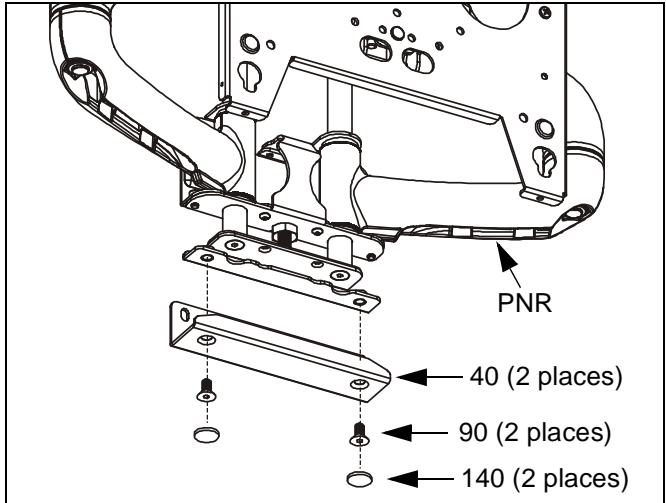

Figure 8: Attach Lower Bracket (PNR Mount)
- PNR mount: Using key (170), attach lower bracket (40) to mount assembly with screws (90) (See Figure 8). Tighten securely, and then install adhesive felt pad (140) to each screw head (90).